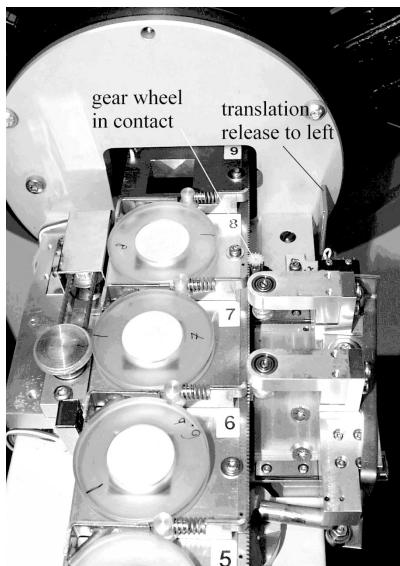

Figure 5.53: FLIP-STICK with magazine translation in working condition
6. Push red **Translation release** actuator of sample stage back to working position (left, Figure 5.53).